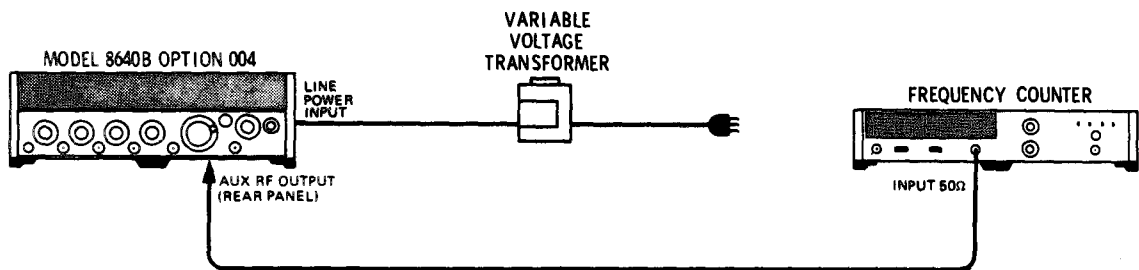

Figure 4-3. Frequency Stability vs Line Voltage Test Setup
1. Connect equipment as shown in Figure 4-3 after setting Signal Generator's controls as follows: